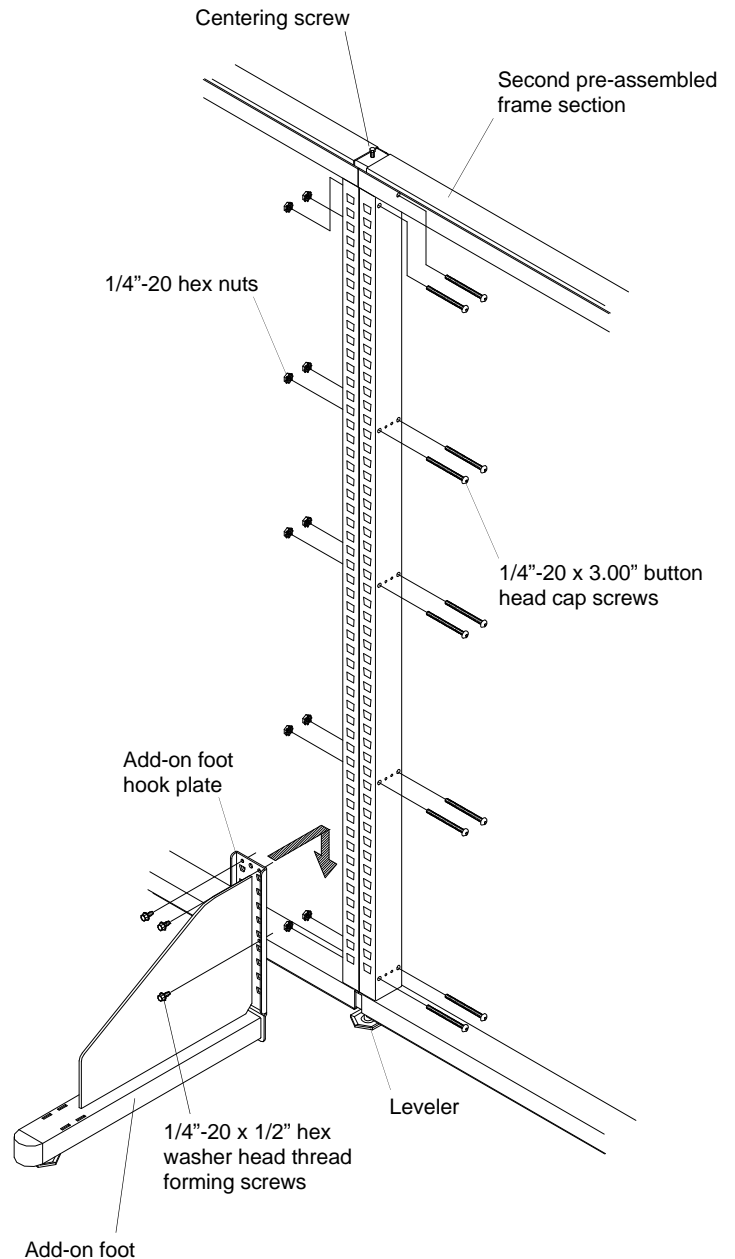

Figure 2
- Install an Add-on Foot at the bottom at the bottom of the joint of each frame section. See figure 2.
1. Remove the two 1/4"-20 x 1-3/4" button head cap screws and hex nuts from the Front Support assembly. See figure 2.